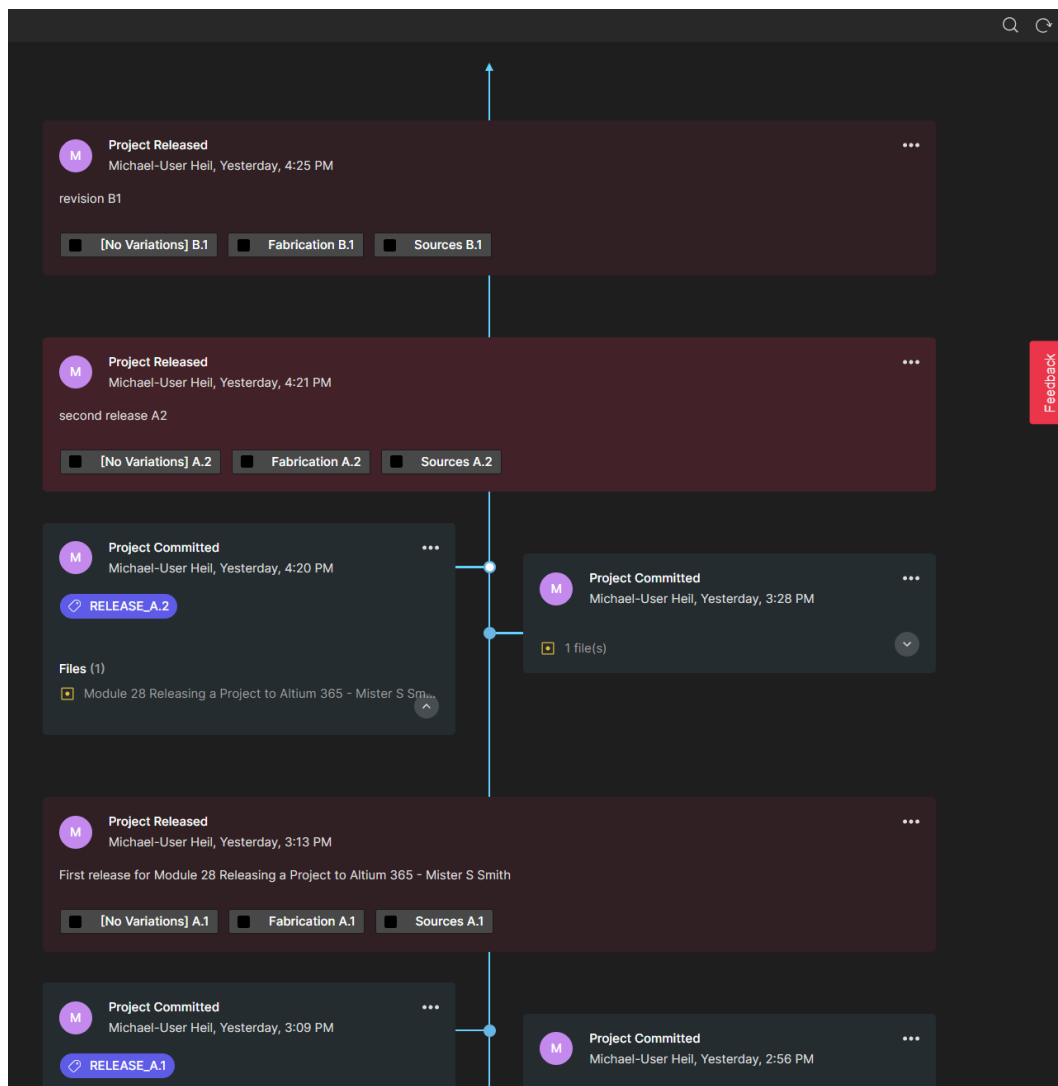

Figure 11. Example for a Project History.
38. The *History* shows you the different Commit and Release steps for your Project. It also shows you if a clone from the project was created. You can see an example history at Figure 11.